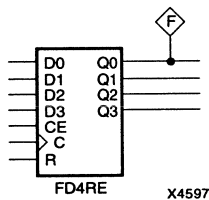

Figure 5-13 Applying the F Signal Attribute
5. Place a junction dot where the new wire connects with the designated signal as shown in Figure 5-13.